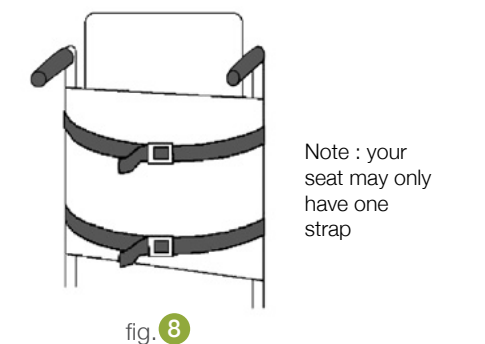

fig. 8
- Pass the retaining strap (this comes from each side of the base cushion's plastic shell) around the wheelchair upright posts and fasten the ends of the buckle together (see fig.8).